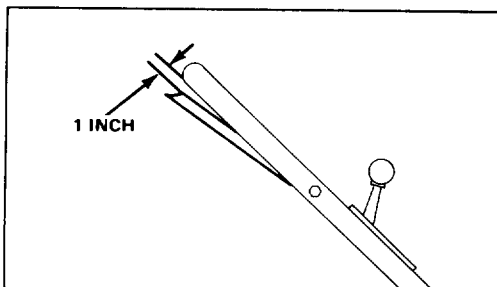

Figure 19
3. CHECK ADJUSTMENT—Slowly pull mower backward while control bar is gradually moved toward handle. Adjustment is correct when rear wheels stop turning and control bar is about 1 inch from handle (Fig. 19).